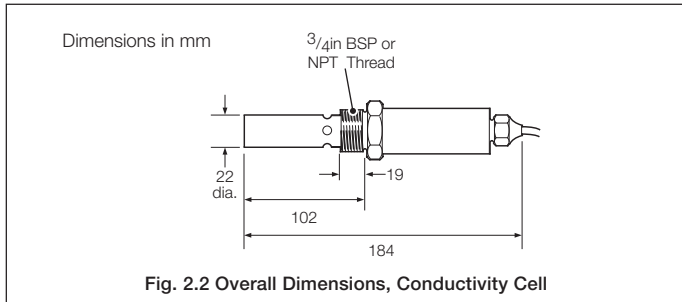

Fig. 2.2 Overall Dimensions, Conductivity Cell
Note. Allow sufficient clearance for easy removal of cell for cleaning – see Fig. 2.2 for overall dimensions of cells.
2.3 Overall Dimensions, Conductivity Cell – Fig. 2.2